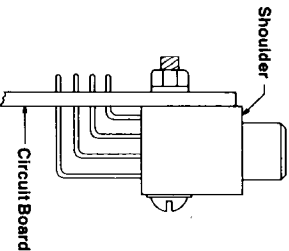

Figure 4
4. The mounting surface to which the connector is applied should not extend forward of the shoulder of the PC connector. See Figure 4.